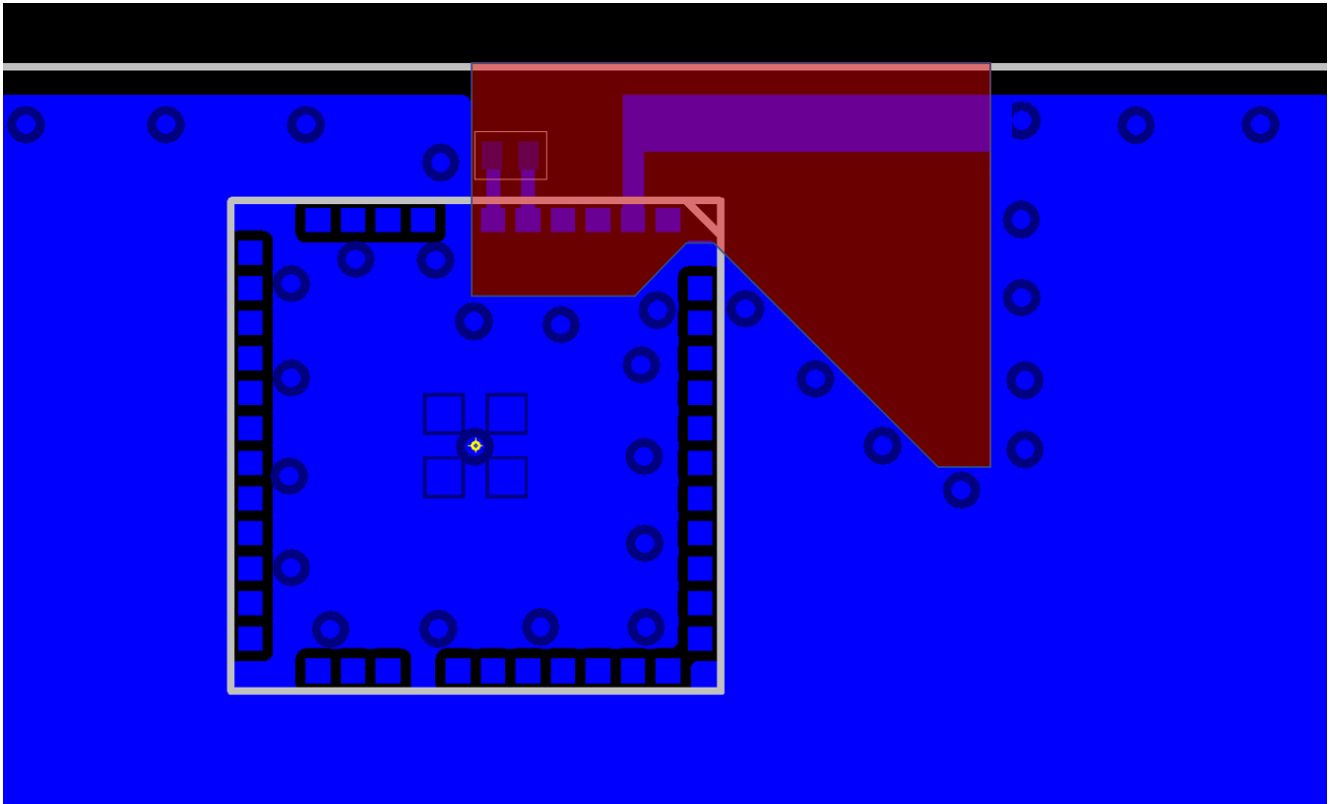

Figure 7.3. Antenna Clearance in Inner and Bottom Layers
- Make a cutout in all lower layers aligned with the right edge and the bottom edge of the integral loop antenna as indicated by the red box in Figure 7.3 Antenna Clearance in Inner and Bottom Layers on page 42.
- Generally ground planes are recommended in all areas of the application board except in the antenna keep-out area shown in Figure 7.3 Antenna Clearance in Inner and Bottom Layers on page 42.